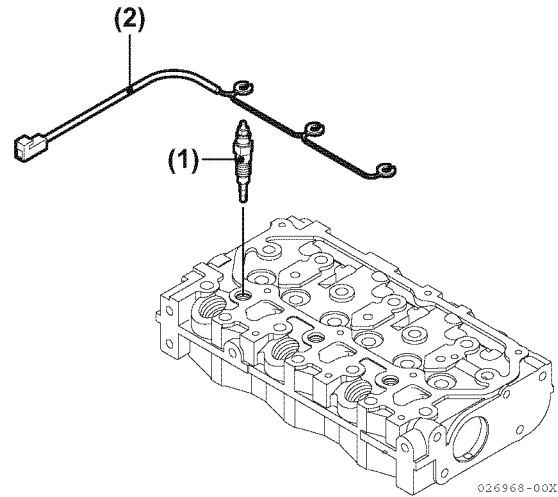

Figure 6-3
1. Disconnect the glow plug harness (**Figure 6-3, (2)**) from the glow plugs (**Figure 6-3, (1)**).